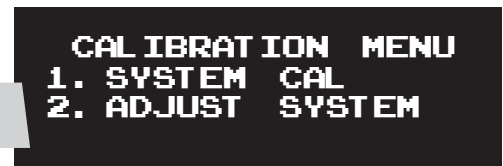

fig. 5
4. Press button 2 to enter CALIBRATE (fig. 5). Press SYSTEM CAL (button 1), follow instructions to calibrate AutoPilot V2 system to your vehicle. Once calibration is complete, Press buttons 1+5 to exit to the settings and diagnostics mode.